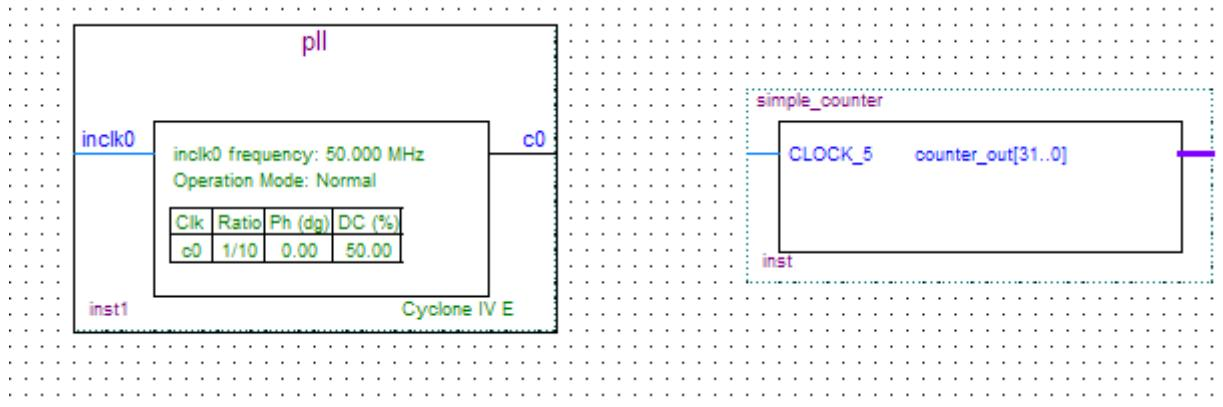

Figure 6-26 Place the PLL Symbol
- Click **OK** and place the pll symbol onto the BDF to the left of the simple\_counter symbol. You can drag and drop the symbols, if you need to rearrange them. See **Figure 6-26**.